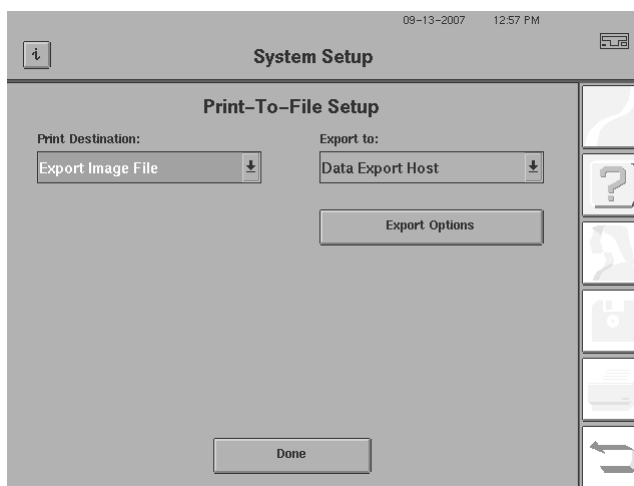

Figure 14.42 Print-To-File Setup Screen
- 2 From the Print Setup screen, select the PRINT-TO-FILE SETUP button to display the Print-To-File Setup screen (Figure 14.42).